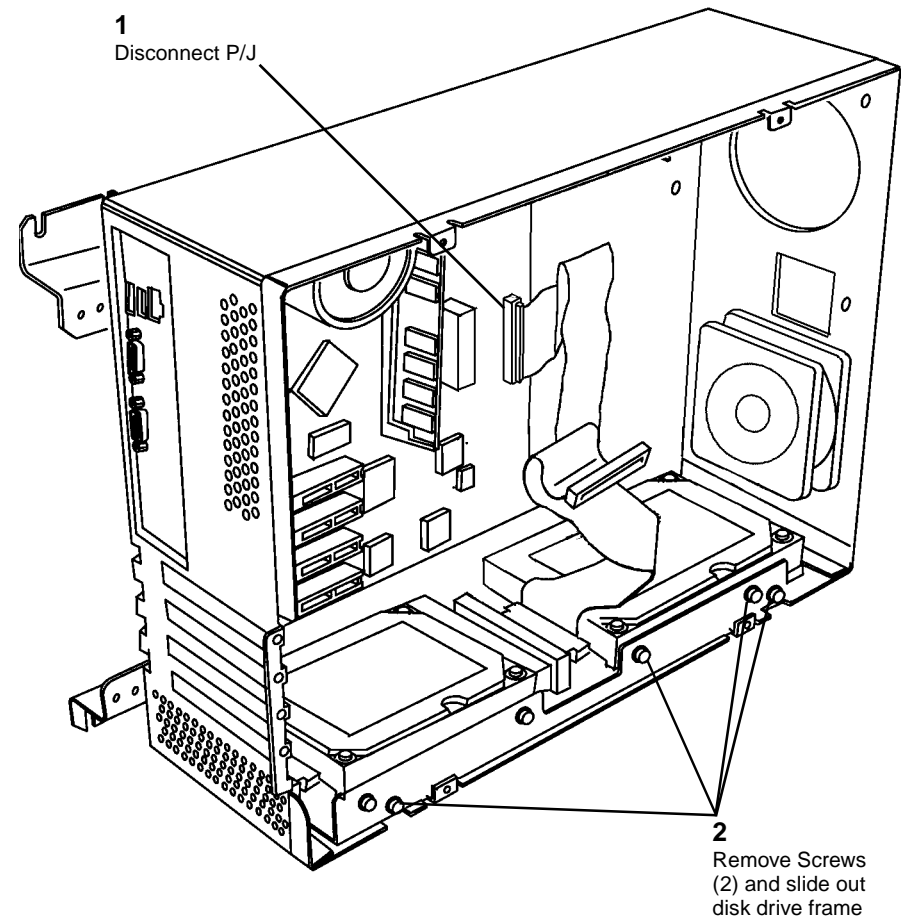

Figure 1 Removing Hard Drives with Frame
5. Remove Hard Drives with frame (Figure 1).